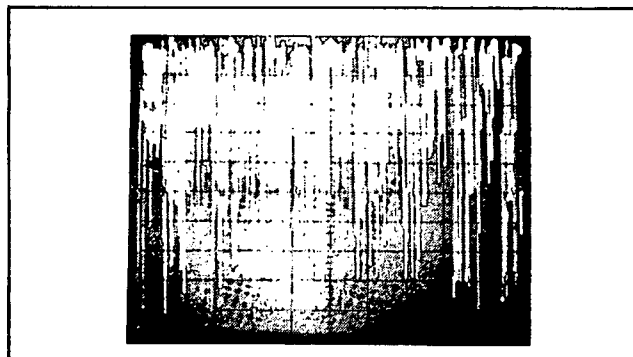

Figure 3-34. Typical Turn On Display.
e. Set the POWER switch to the ON (AC) position. The POWER light will illuminate.
f. Allow approximately 15 seconds for the CRT to warm up. Adjust the INTENSITY and FOCUS controls for a bright, clear presentation on the CRT. When the instrument is initially turned on, the display may be similar to the one shown in Figure 3-34. This display reflects the preferred states of the storage elements in the digital memory and is not meaningful. To clear the display, press the CLEAR WRITE button.
c. Allow approximately 15 seconds for the CRT to warm up. Adjust the INTENSITY and FOCUS controls for a bright, clear presentation on the CRT. When the instrument is initially turned on, the display may be similar to the one shown in Figure 3-34. This display reflects the preferred states of the storage elements in the digital memory and is not meaningful. To clear the display, press the CLEAR WRITE button.